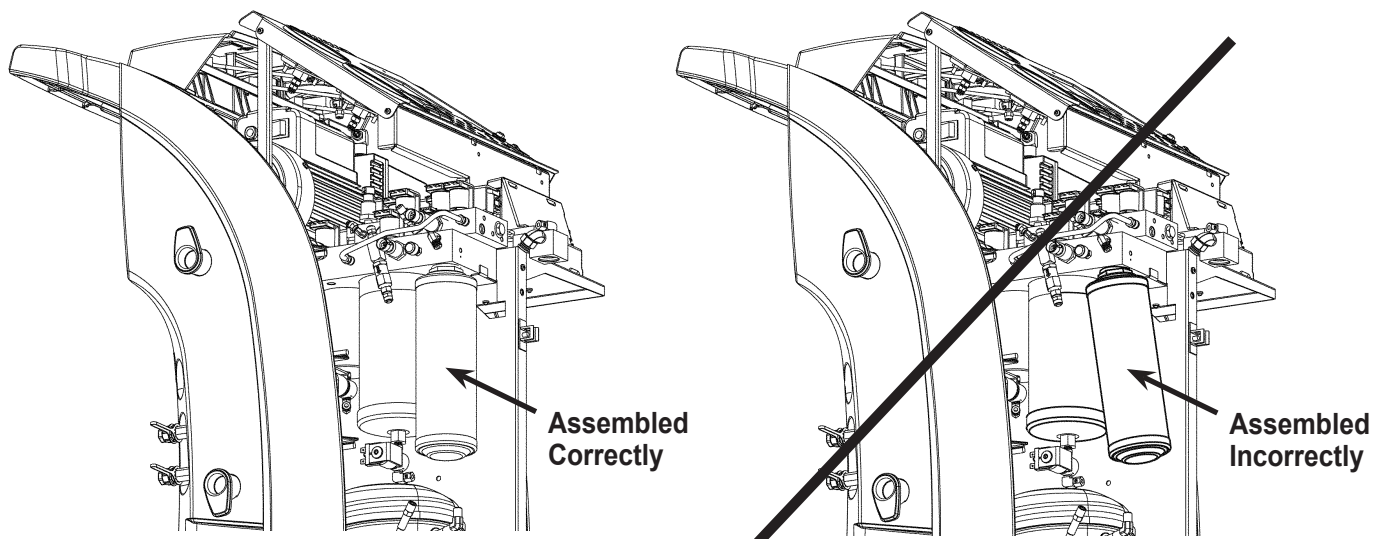

Figure 18
6. Install the new filter by threading it clockwise into place. Verify the filter is positioned correctly as shown in Figure 18. Tighten the filter to 20 N•m.